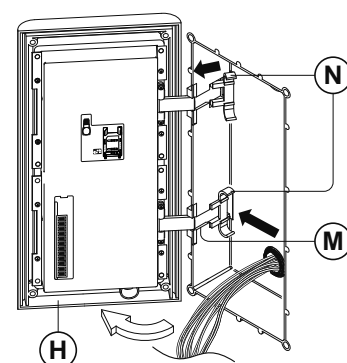

Fig. 54
8. With the front support frame (H) opened out (to allow for easy access to the hinge mounts (M)) take the hinge locks (N) and clip them in place locking into the hinge mounts (M), following the guide arrows as shown in **Fig.54**;
9. Next open the module support frame (H) and clip the hinge locks (N) to the hinge mounts (M), following the guide arrows, as shown in **Fig.54**;